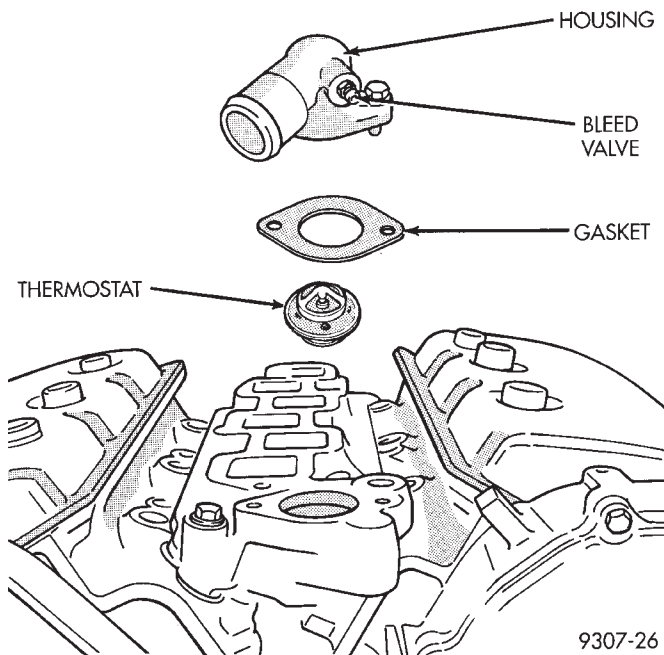

Fig. 21 Thermostat and Housing—3.3/3.5L Engine
(1) Drain cooling system down to thermostat level or below.
(2) Remove thermostat housing bolts and housing (Fig. 21).
(3) Remove thermostat, discard gasket and clean both gasket sealing surfaces.